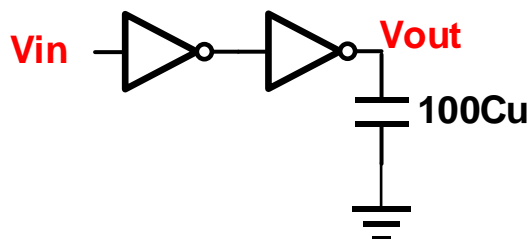

Figure 3. 2-stage inverter diagram.
**1C** : Consider a 2-stage inverter buffer drives the capacitor,  $100C_u$ , as shown in Fig.3.
**2C** Fig.3 illustrate a Voltage-Controlled ring Oscillator (VCO). The control signals,  $V_{ctrl}$  and  $\overline{V_{ctrl}}$ , are used to control the current source so that the delay can be controlled by the signals. Please derive and design a VCO that the center frequency is **3GHz** when  $V_{ctrl} = \overline{V_{ctrl}} = 0.9V$ . Furthermore, the frequency should **cover from 2.9G to 3.1GHz** when  $V_{ctrl} = 0.7\sim 1.1V$  and  $\overline{V_{ctrl}} = 1.8V - V_{ctrl}$ . Finally, simulate it with HSpice.